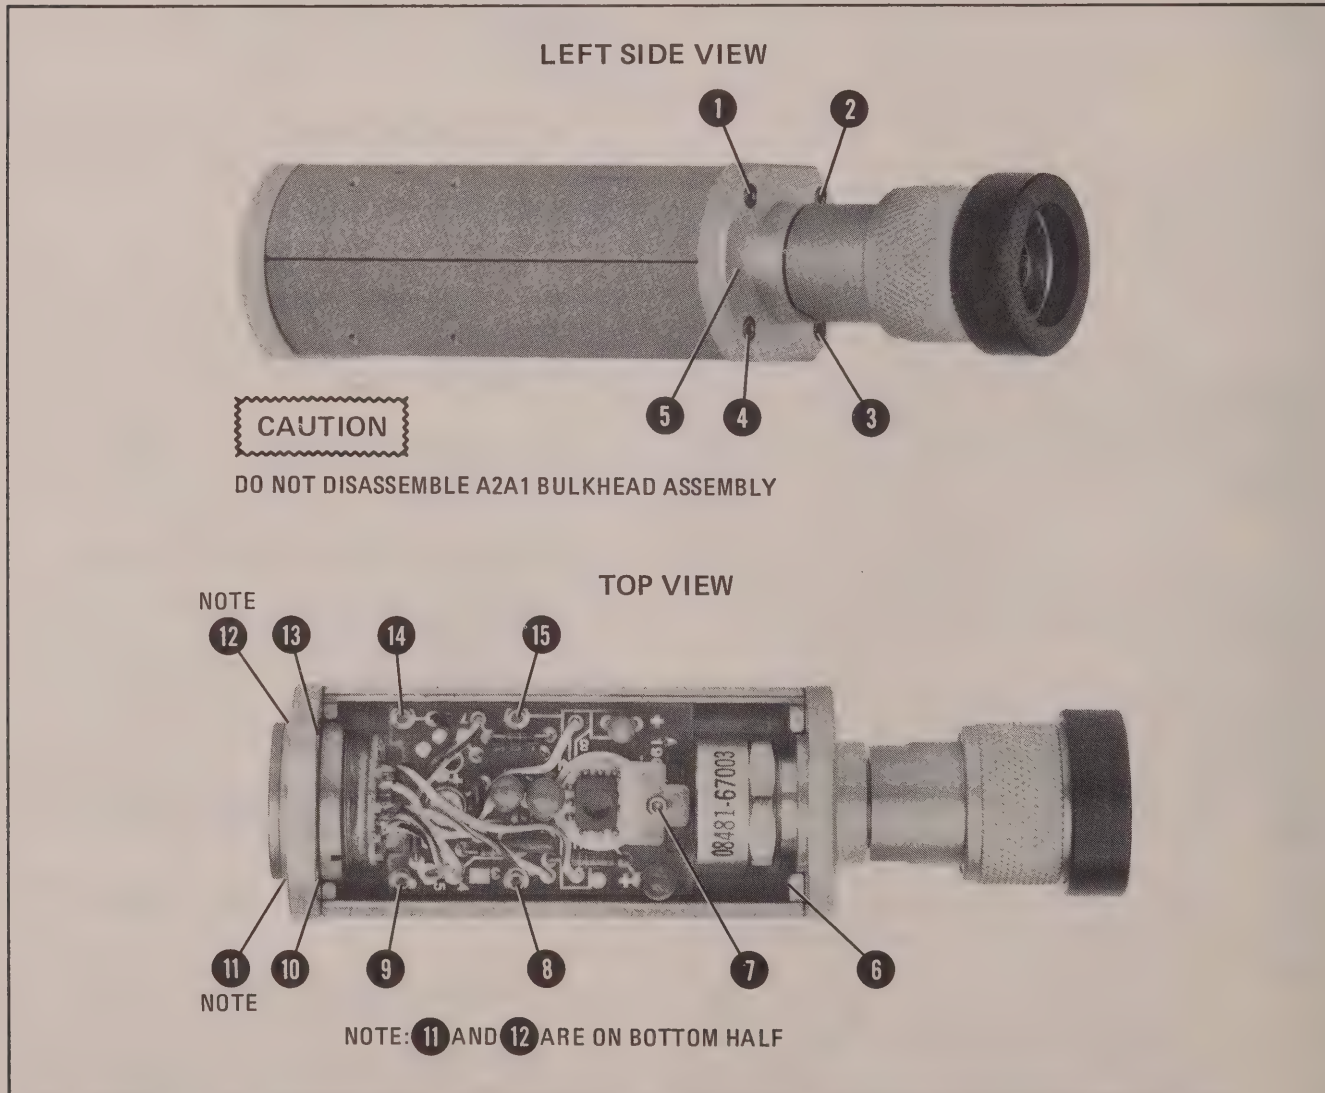

Figure 7. Sensor Hardware Locations
3. Position the sensor as shown in Figure 7. The small hole ⑤ should be on the left side of the RF input connector. Remove the allen cap screws ①, ②, ⑩, and ⑬. Loosen ⑪ and ⑫. Remove the upper chassis from the sensor.
4. Remove the spring clamp cap screw ⑦ to free the gold leads which come from the bulkhead assembly.
5. Remove cap screws ③, ④, and ⑥.
7. Remove cap screws ⑧, ⑨, ⑪, ⑫, ⑭, and ⑮.
2. Cap screws ⑧, ⑨, ⑪, ⑫, ⑭, and ⑮ must be inserted but not tightened. Refer to Figure 7.
3. Center the circuit board so there is equal air gap between each side and the chassis. Tighten ⑧, ⑨, ⑭, and ⑮.
4. With small hole ⑤ to the left, carefully insert the gold leads on A2A1 Bulkhead Assembly through the holes in the black plastic guide on A2A2 Input Assembly.
5. Insert screws ③, ④, and ⑥. Tighten only screw ⑥.
6. Position the ends of the gold wires over the pads on A2A2U1. The wires should not pass over the hole in the pad. Lightly clamp the leads in place with screw ⑦. DO NOT fully compress the spring.
7. Place the upper chassis in position and insert cap screws ①, ②, ⑩, and ⑬.
8. Tighten ①, ②, ③, and ④.
9. Tighten ⑩, ⑪, ⑫, and ⑬.